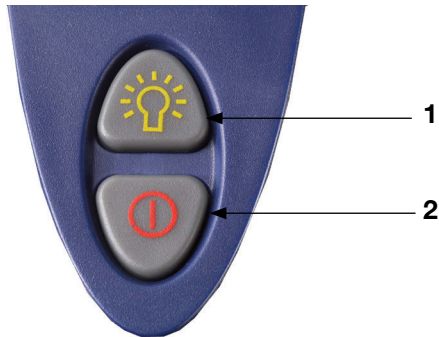

Figure.3.2: Function keys
Press the power-key to turn on and turn off the meter (see fig 3.2, key 2). When the meter is powered on, the preset alarm value and current air temperature will be blinking on the LCD. The meter is now running a self-test and will finish in about 15 seconds with a short beep. It will then enter the measuring mode.
Users can select °C or °F as the temperature unit by pressing the backlight key (see fig. 3.2, key 1) for more than 1 second during the self-test.
The alarm value of the meter is preset at 25 ppm to give warnings of possible danger. Users can adjust the value for different needs or standard by turning off the meter, then press and hold the power-key (see fig. 3.2, key 1) until the value options appear in the display. There are 25, 30, 35, 45, 50, 70, 100 and 200 ppm displaying in cycles. Release the button to select the preferred value. Then the meter will return to Self-Test mode in some seconds.
The meter features backlight function for using in dark areas. Press the backlight to activate and switch off the backlight. (Figure 3.2, key 1).